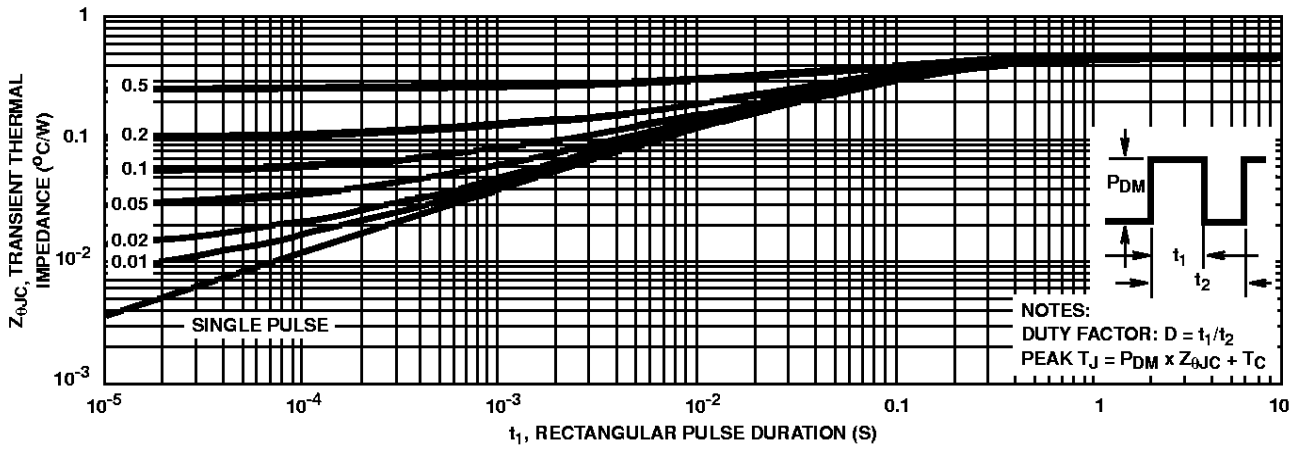

FIGURE 3. TRANSIENT THERMAL IMPEDANCE
3. Repetitive rating: pulse width limited by maximum junction temperature. See Transient Thermal Impedance curve (Figure 3).